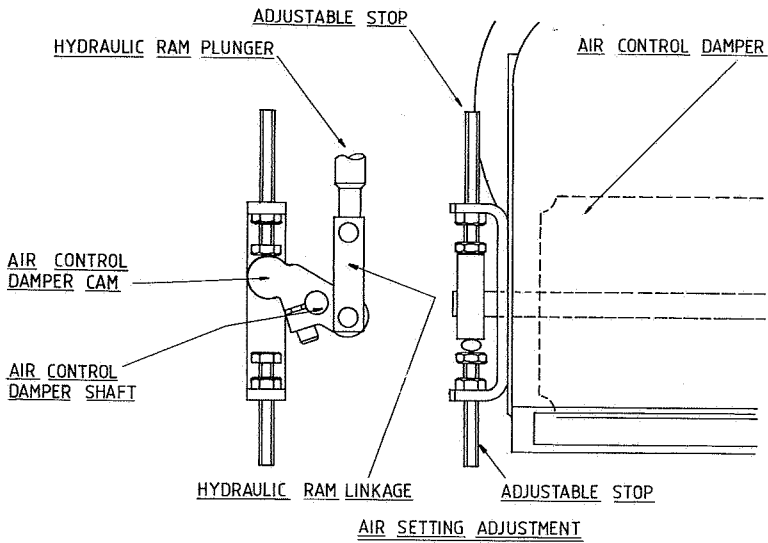

FIG. 11
4.1.1 Air Control Damper — Fig. 11
Adjustable stops and hydraulic ram for setting high and low flame air are located beneath the cover on the rear of the air inlet casing. (Fig. 11/12).